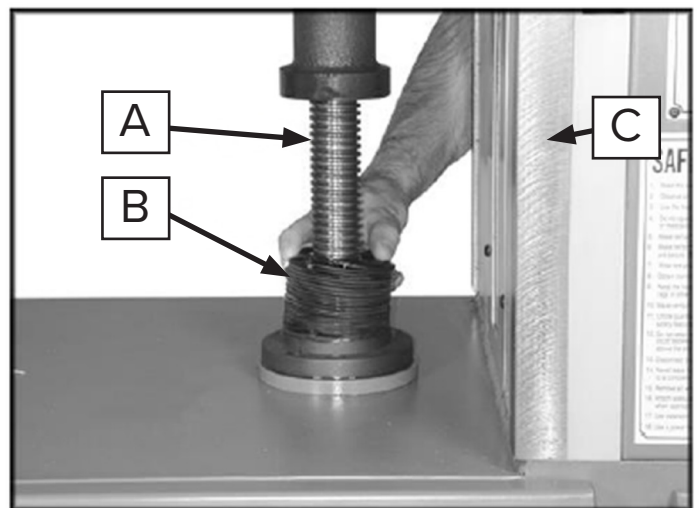

Figure 22: Table elevation Screws.
1. Raise the table and remove the two screws holding the top of the accordion cover (B, Figure 22).
2. Pull down the cover and lightly grease the elevation screws (A, Figure 22).
- Ways: Use an oiled cloth to wipe the ways (C, Figure 22)